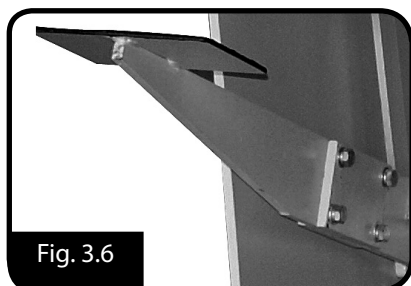

Fig. 3.6
- ☐ Unpack and attach the two foot pedals and attach with the 4 bolts supplied. (Fig.3.6)